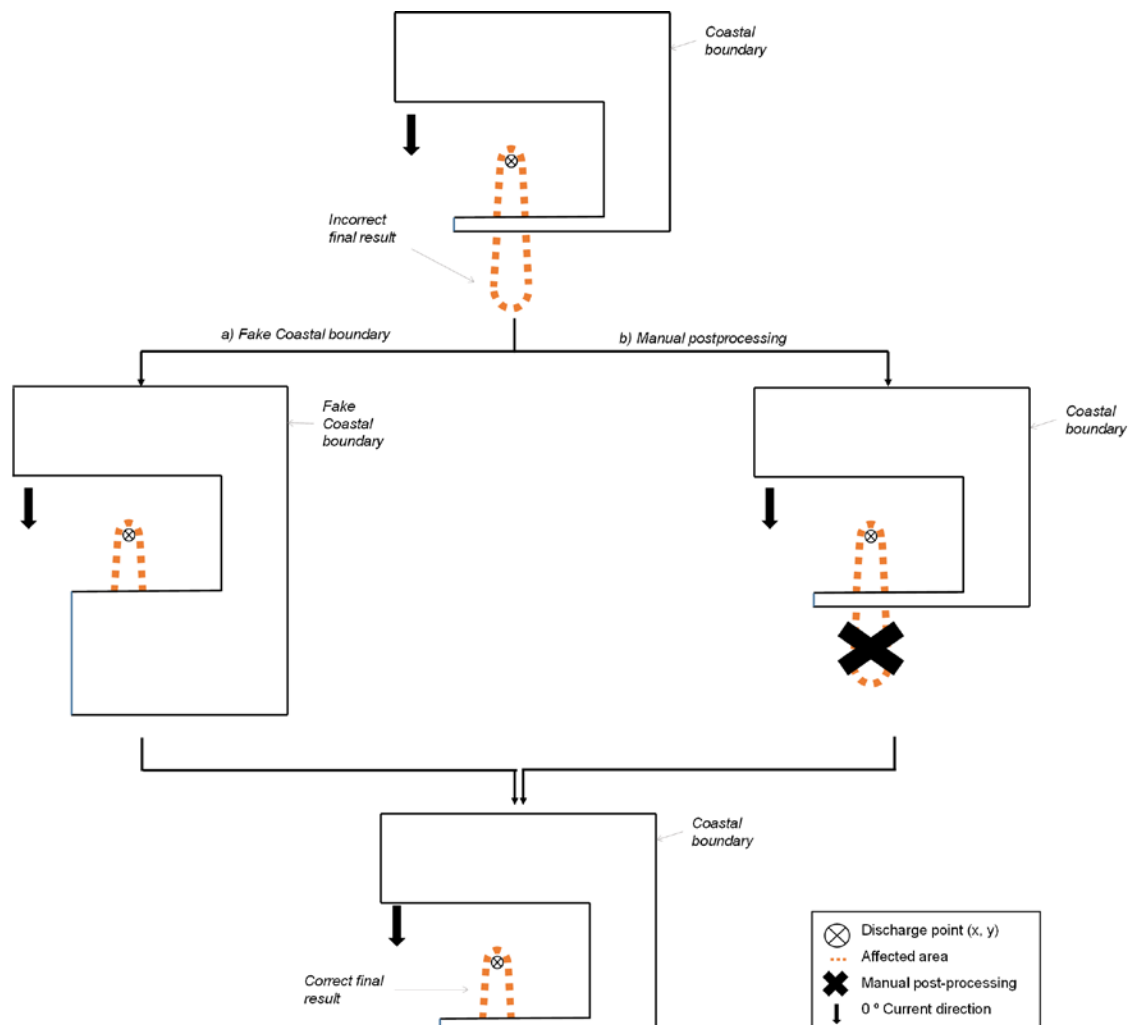

Figure 4. Proposed ways to solve SPILL Tool usage limitations.
- There are two ways to solve this problem, by: a) considering a fake coastal boundary; or, b) post-processing manually the polygon (vector) results obtained by the SPILL TOOL (Figure 4).